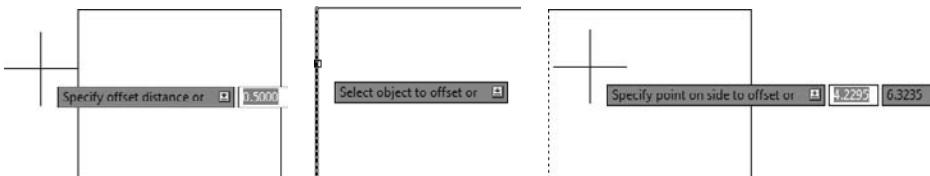

FIGURE 2.19 From left to right, the series of prompts required to execute the OFFSET command: distance, object, and direction
3. Place the pickbox on one of the lines, and click it when it highlights. The selected line appears dashed to indicate that it is selected (see Figure 2.19), the cursor changes back to the crosshair, and the prompt changes to **Specify point on side to offset or [Exit/Multiple/Undo] <Exit>:**. AutoCAD is telling you that to determine the direction of the offset, you must specify a point on one side of the line or the other. You make the choice by selecting anywhere in the drawing area on the side of the line where you want the offset to occur.